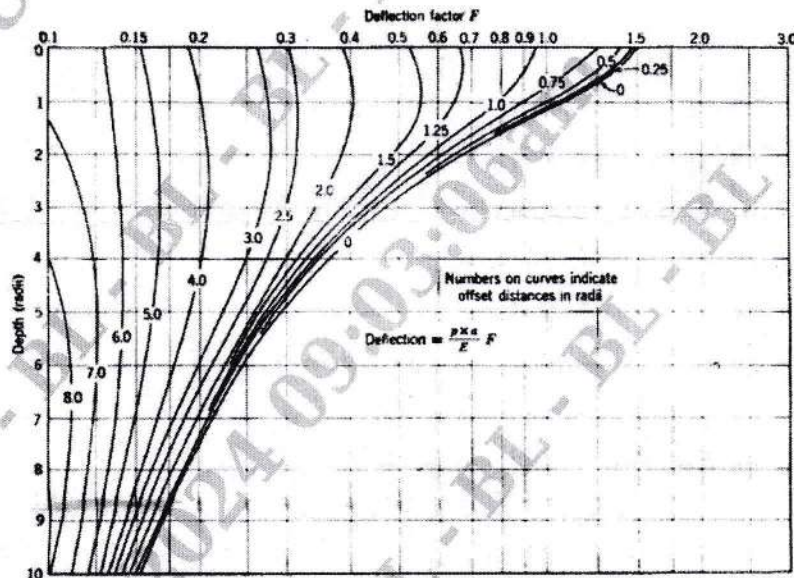

Fig.Q.1(b)
- b. Determine the deflection values under a wheel load of 60kN and contact pressure 0.7 N/mm² in a homogeneous mass of soil at a depth of $Z = 2.5a$ upto a radial distance of $r = 5a$. Take modulus of elasticity of subgrade as 8 N/mm². Sketch the deflection curve. Use Fig.Q.1(b). (08 Marks)